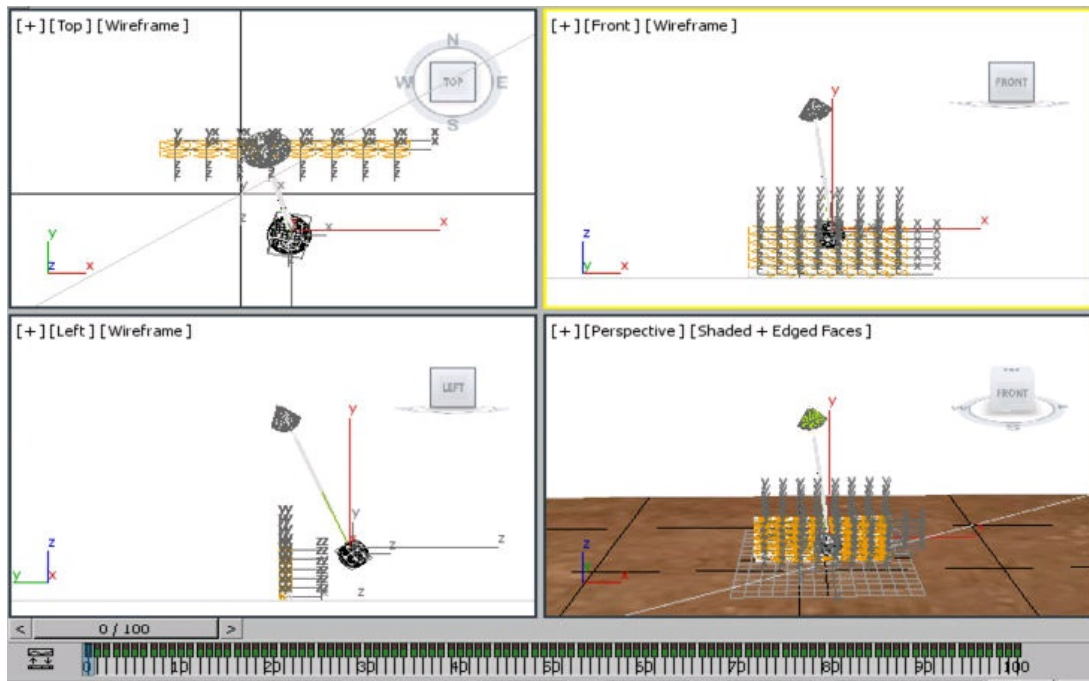

Figure 16-64 Baked keyframe in the track bar
2. Select *metal ball*, *metal rod*, and all bricks from the viewport and choose the **Simulation tools** tab in the **MassFX Tool** dialog box. Next, choose the **Bake all** button in the **Simulation Baking** area of the **Simulation** rollout; the animation is baked in the track bar, refer to Figure 16-64.